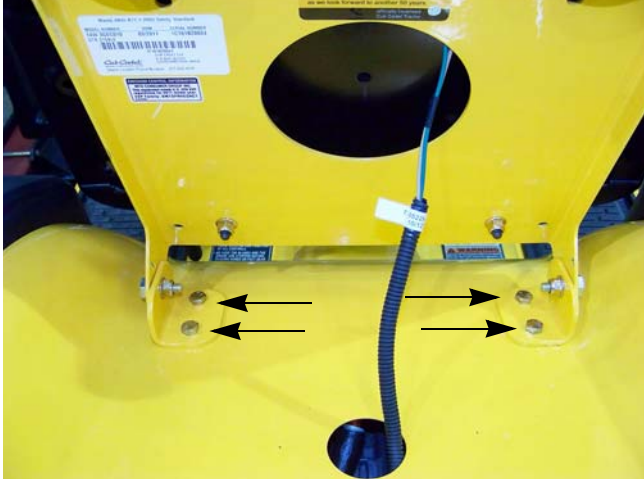

Figure 2.5
- Remove the four screws, indicated by the arrows in Figure 2.5, that hold the seat frame to the fender using a 7/16" wrench.